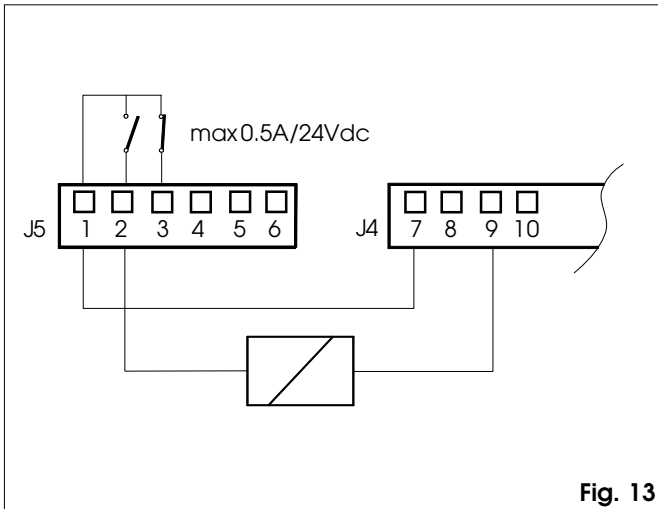

Fig. 13
⑥ J5 TERMINAL BOARD Connection to relay Outputs (figs. 13,14, 15)
- 2 **Electric lock - N.O. Contact (max. capacity 0.5 A/24 V) (fig.13).**